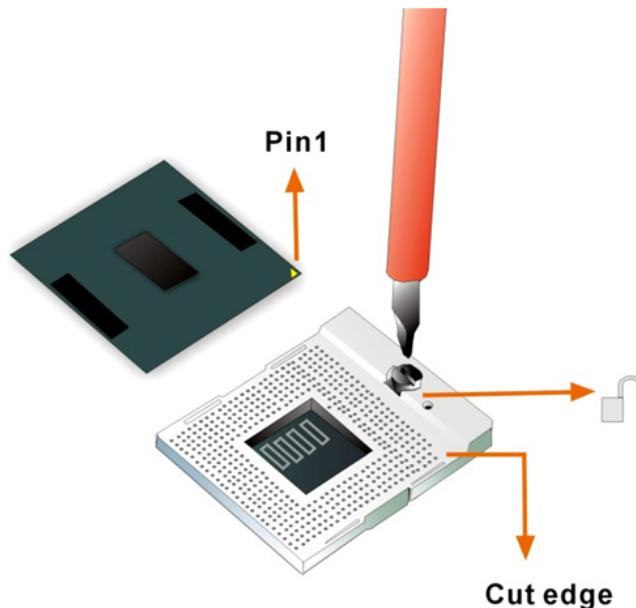

Figure 4-1: Unlock CPU socket retention screw
Step 1: Unlock the CPU retention screw. When shipped, the retention screw of the CPU socket should be in the unlocked position. If it is not in the unlocked position, use a screwdriver to unlock the screw. See **Figure 4-1**.
Step 4: **Correctly position the CPU.** Match the Pin 1 mark with the cut edge on the CPU socket. See **Figure 4-1**.